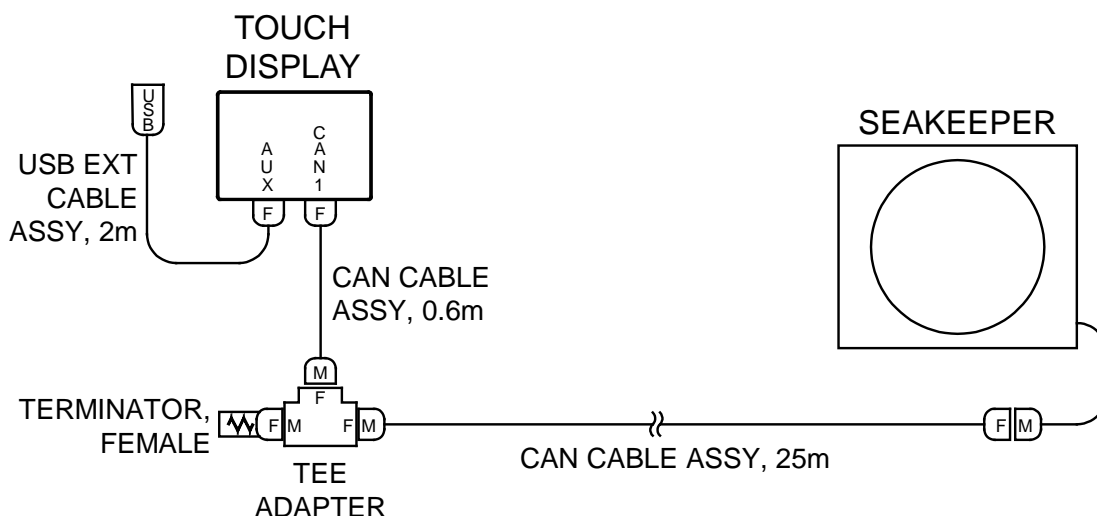

FIGURE 9 – SERIAL COMMUNICATIONS LINK FOR OPERATOR STATION
- c. Figure 9 below shows the CANbus communications link for the Operator Station. The Terminator goes on one the far end of the Tee Adapter from the Seakeeper.